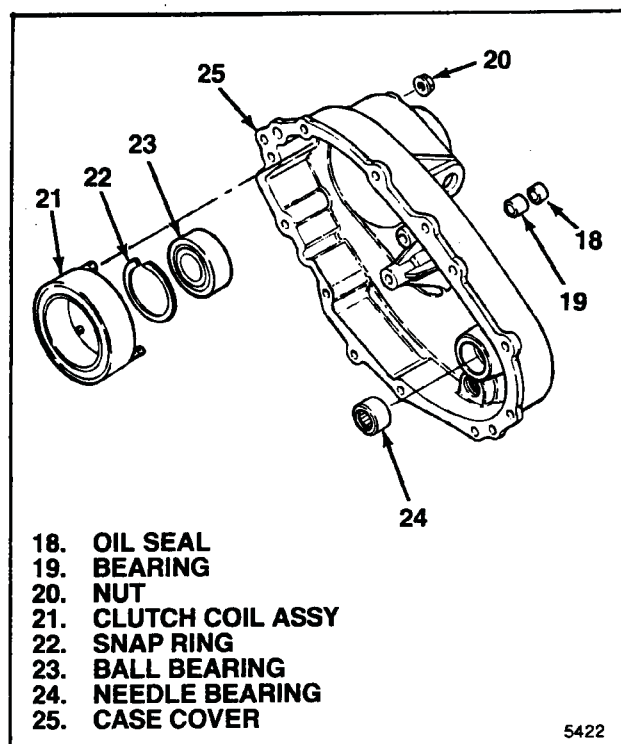

Figure 5-18. Cover Assembly
**5-14. COVER ASSEMBLY.** Assemble parts into cover as follows (see figure 5-18):
a. Position cover (25) on bed of suitable press so that open face of cover is up and parallel with press bed.
b. Position end of needle bearing (24) with identification marking up and press into cover (25) until upper end of bearing is 1.593-1.603 in. (40.47-40.97 mm) below face of cover that mates with transfer case.
c. Press in ball bearing (23) to bottom in cover (25) and install snap ring (22).
1. Verify that four o-rings (one on wire and one each on three studs) are in place on clutch coil assembly (21). Install clutch coil assembly in inside of cover (25), with electrical wire and studs extending through cover. Use care not to kink or trap electrical wire under clutch coil assembly. Attach with three nuts (20) and torque to 6-8 lb-ft (8-11 Nm).
2. Install motor bearing (19) and oil seal (18) in cover (25).